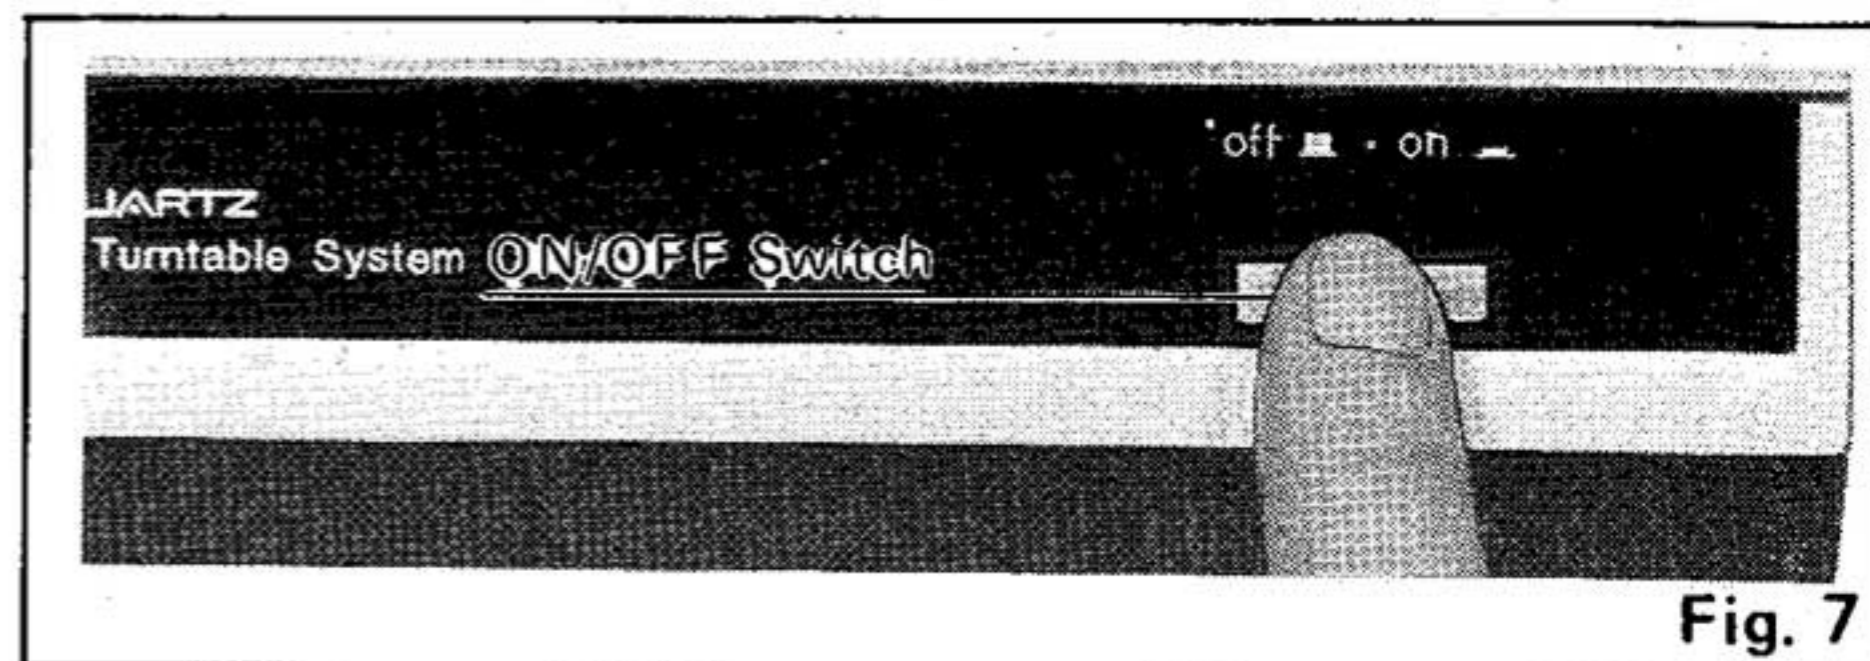

Fig. 7
2. Set the on/off switch to the "on" position (—). (See Fig. 7.)